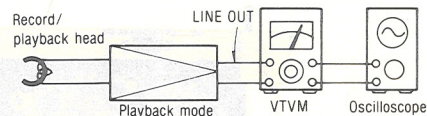

Fig. 6
8. Make connections as shown in fig. 6.